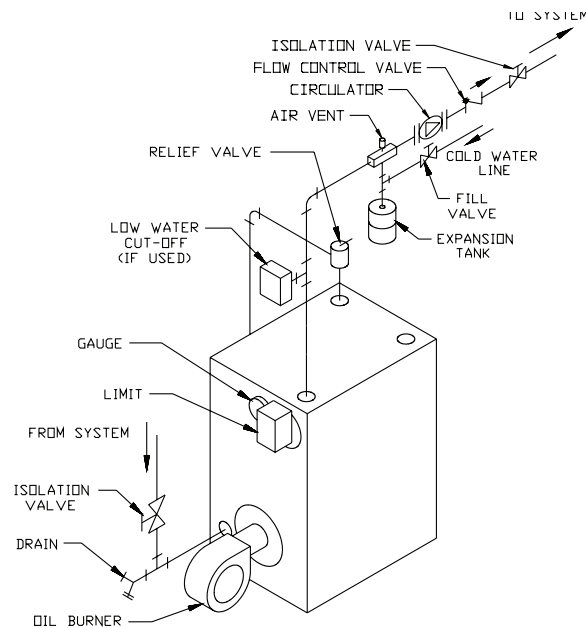

FIGURE 7.1: STANDARD BOILER PIPING
Figure 7.1 shows typical boiler system connections on a single zone system. Additional information on hydronic system design may be found in the *I=B=R* Guide RHH published by the Air-Conditioning, Heating and Refrigeration Institute (AHRI). The components in this system and their purposes are as follows:
- 1) Relief valve (Required) - Mount the relief valve on the top left side of the boiler as shown in Figure 7.1 using the 3/4” nipple provided. The relief valve shipped with the boiler is set to open at 30 psi. This valve may be replaced with one having a pressure up to the “Maximum Allowable Working Pressure” shown on the rating plate. If the valve is replaced, the replacement must have a relief capacity in excess of the DOE heating capacity for the boiler.
- 2) Circulator (Required) - Figure 7.1 shows the ideal location of the circulator which is in the supply piping immediately downstream of the expansion tank. A less ideal, but acceptable, location for most residential circulators is in the return (if this is done, be sure that adequate clearance exists to open the door.